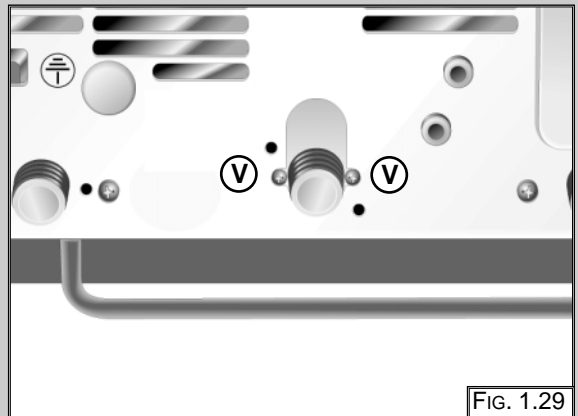

FIG. 1.29
4. Remove the screws "V" from the bottom of the gas valve pipe (FIG. 1.29);